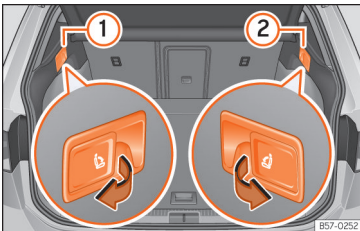

Fig. 81 In the luggage compartment: levers to unlock the rear backrest.
- Pull the remote release lever of the left >>> **Fig. 81** ① or right ② parts of the backrest in the direction of the arrow. The released part of the rear seat backrest is folded automatically down and forwards.